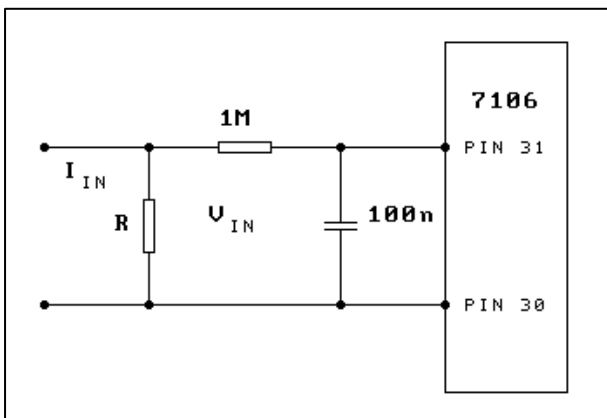

Figure 6. Principle of Current Measurement
**Current Measurement.** The current must be converted into a voltage using a shunt resistor. The voltage divider resistors RA and RB are not used. The principal is shown in Figure 6.